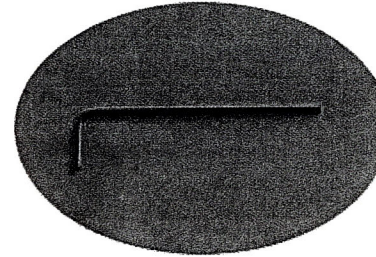

Figure 8
8.2 Allen key M2 (order #TL0042), as shown in Fig 8. 1 piece.
To open the LED lamp housing, please use the Allen key provided as shown in Figure 8 to loosen the screw on the side of the lamp housing and pull the housing up.